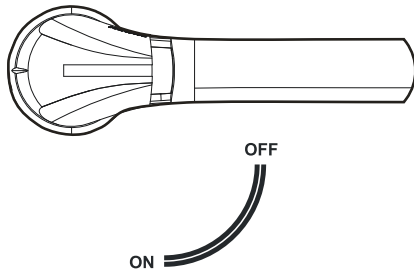

Figure3-19 Set the switch to OFF
Step 1 Open the front door of distribution cabinet, set the input switch, output switch, bypass switch, maintenance bypass switch to OFF, as shown in Figure3-19.